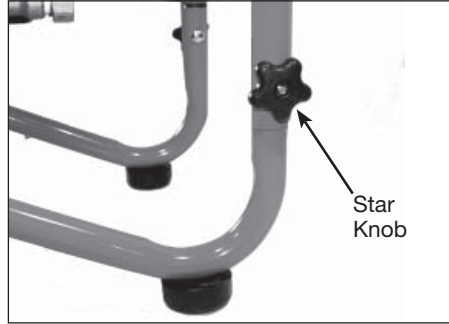

Figure 4 - Assemble handle
1. Slide the handle assembly over the lower legs of the cart base. Use the (supplied) star knob and bolts to secure the handle to the legs (See Figure 4).